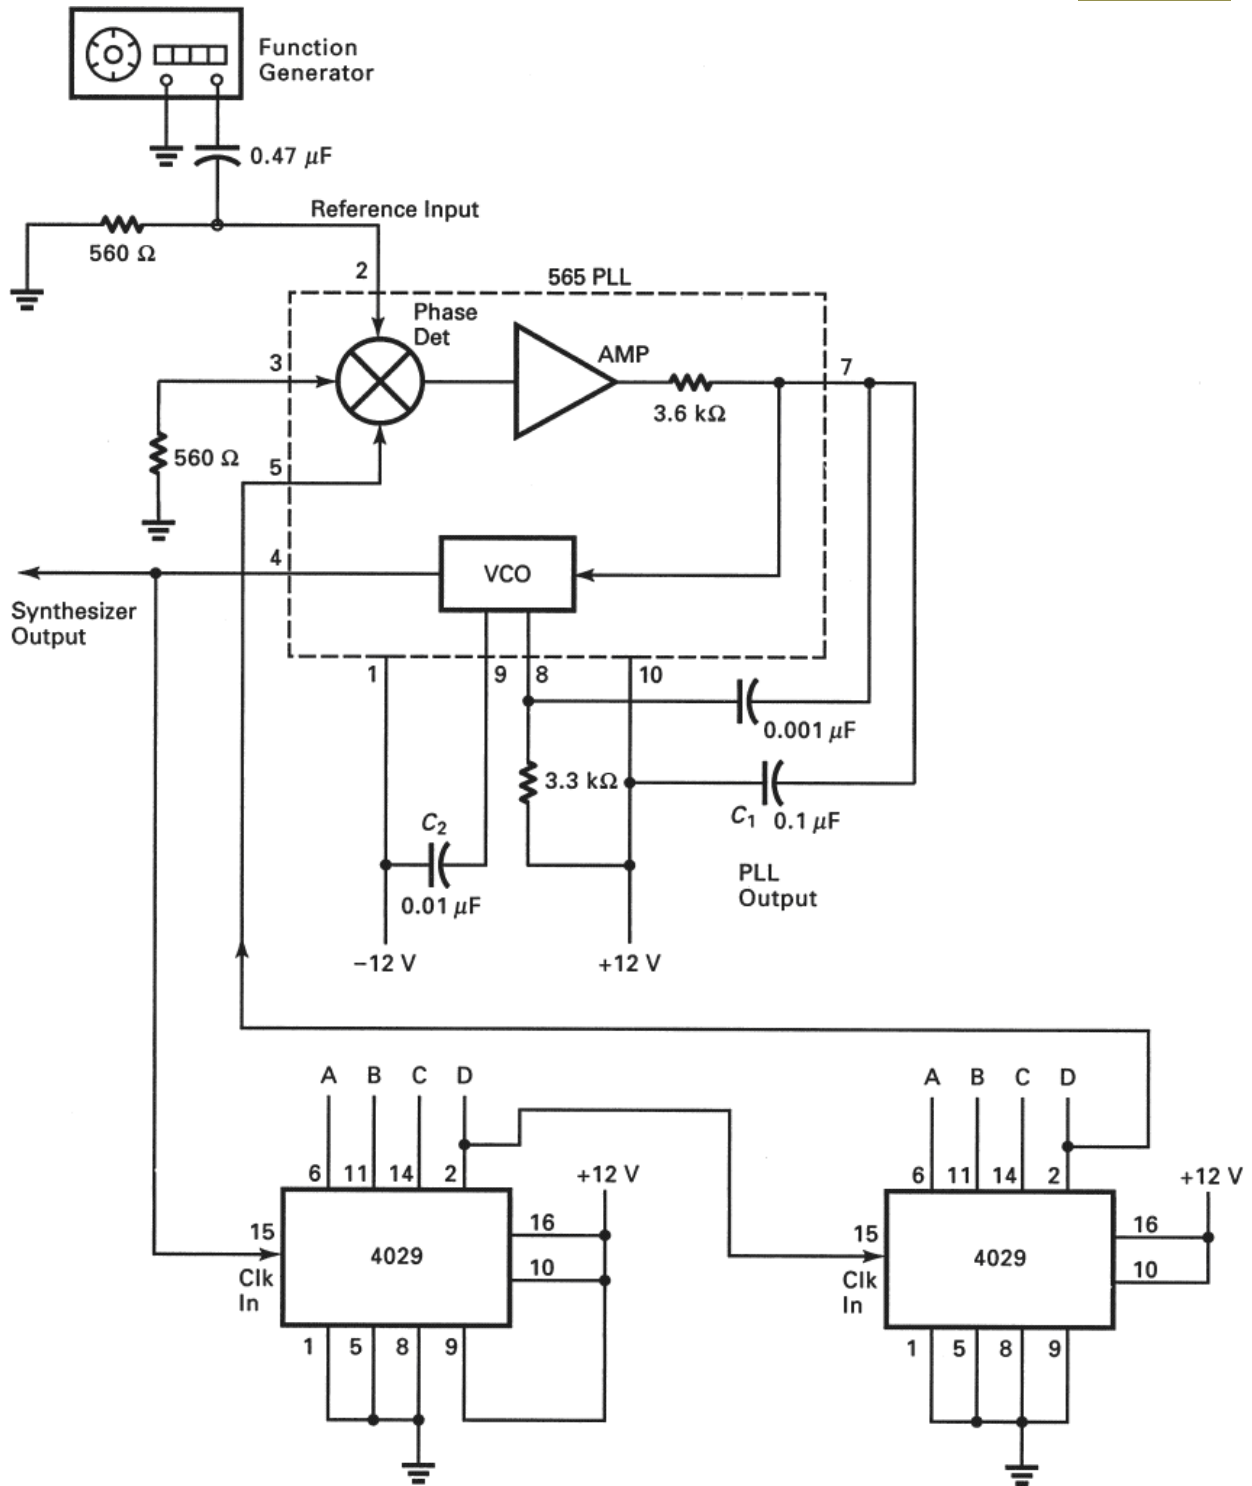

Fig. 9-4 Revised synthesizer experimental circuit.
9. Rewire the circuit so that it is as shown in Fig. 9-4. Change the 3.3-k Ω resistor on the 565 between pins 8 and 10 to 2.2-k Ω . Two 4029 ICs are cascaded between the VCO output and phase detector input. Looking at the state of pin 9 on each 4029 determines the individual IC divide ratios and the combined or total divide ratio. What is it? Predict the synthesizer output frequency if the function generator (reference) is set to 100 Hz. Record your prediction.